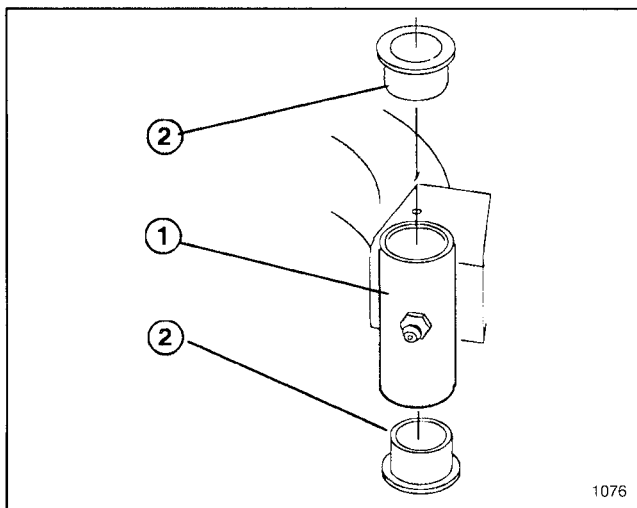

Figure 9
2. Remove retaining ring, thrust washer(s) and spacer (if installed on top) from top of castor spindle (Fig. 9).
4. Insert pin punch into mounting tube and drive out bushings (Fig. 9). Clean inside mounting tube.